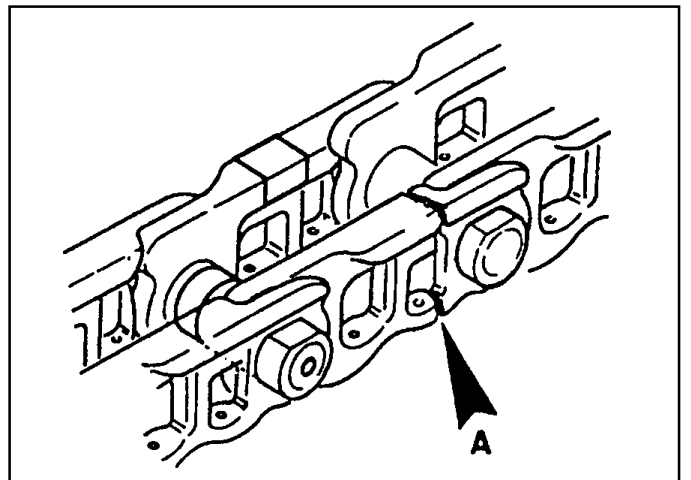

Fig. 2-7 Cut out damaged link
2. To replace a damaged link, gas cut at the broken location (arrow, fig. 2-7). Cut the chain completely through at the damaged area and lay chain on ground.